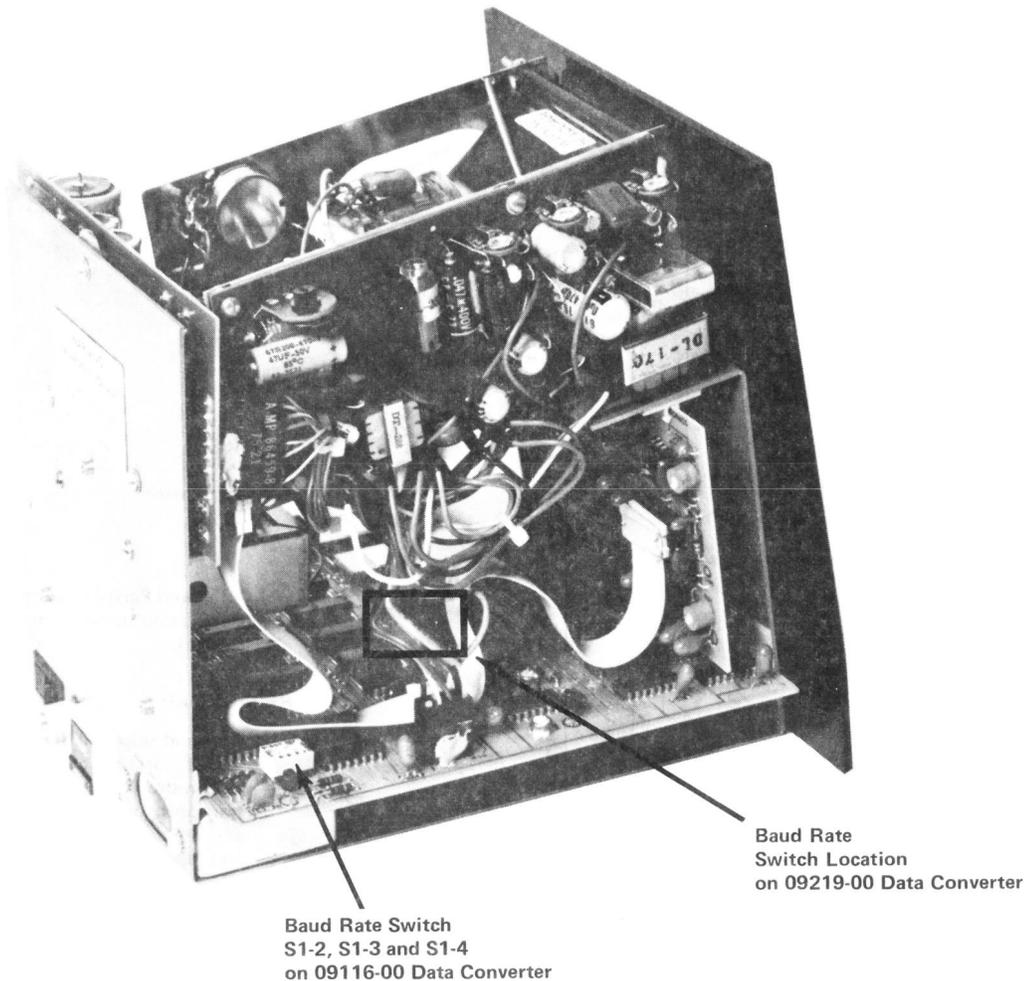

Figure 13, Baud Rate Switch Location
- e) Locate data rate selector switch on the data converter board (see Figure 13,) and set desired data rate placing selector switch segments to the positions indicated in Table B. Switch S1 is a four seg-